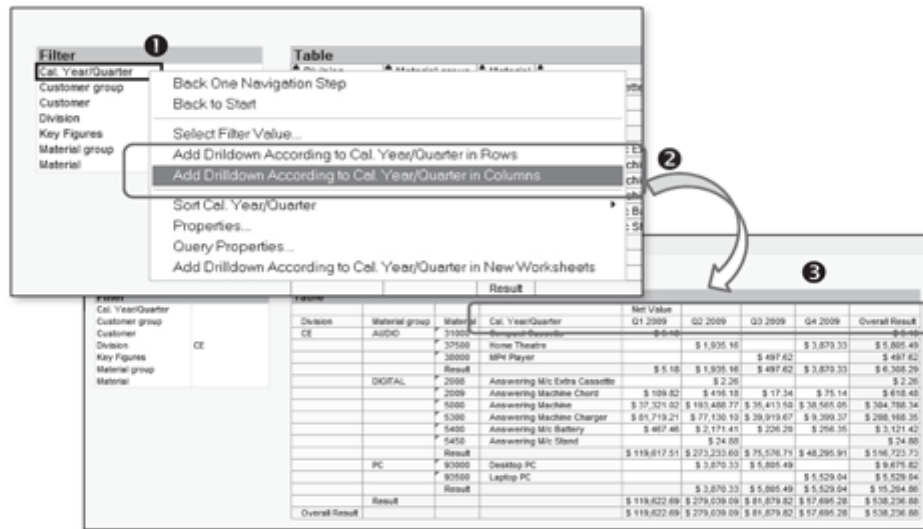

Figure 10.14 Drilldown Options
For the example shown in Figure 10.14, if you want to see the sales values split by Cal. Year/Quarter (❶), you can drill down by this characteristic in the columns. To perform this navigation, select Add Drilldown According to Cal. Year/Quarter in Columns from the context menu of the Cal. Year/Quarter characteristic (❷). As a result, the selected characteristic is added to the query, and the data is refreshed as the drilldown (❸).